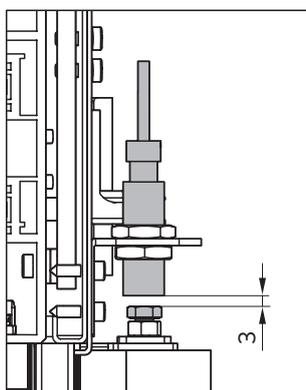

Fig. 49 Adjusting the proximity sensor
1. Adjust the height of the sensor using the screw and the nuts. The optimum distance is 3 mm (Fig. 49).